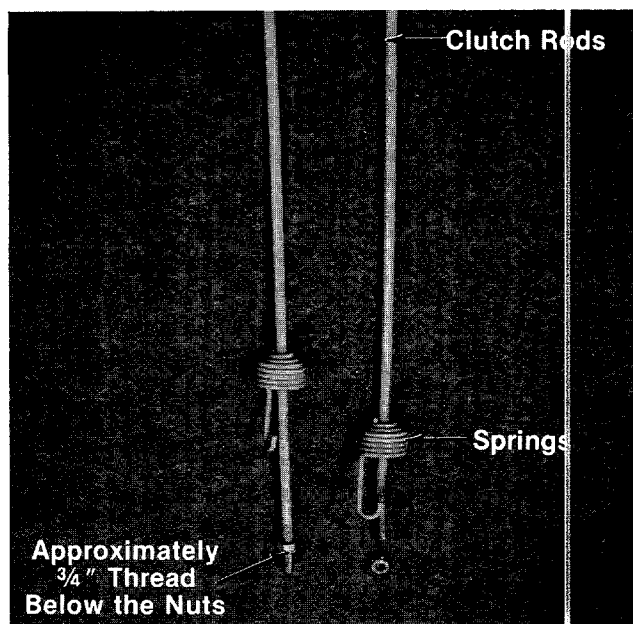

FIGURE 9.
1. Slide the springs up the clutch rods. Thread the nuts onto the rods until approximately  $\frac{3}{4}$ " of threads extend below the nuts. See figure 9.